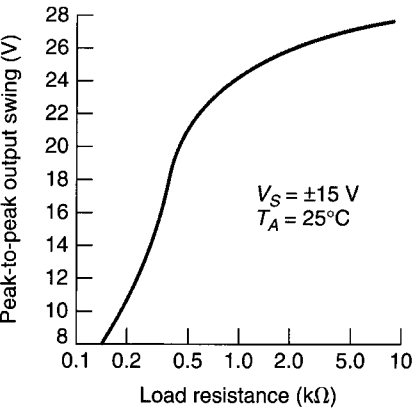
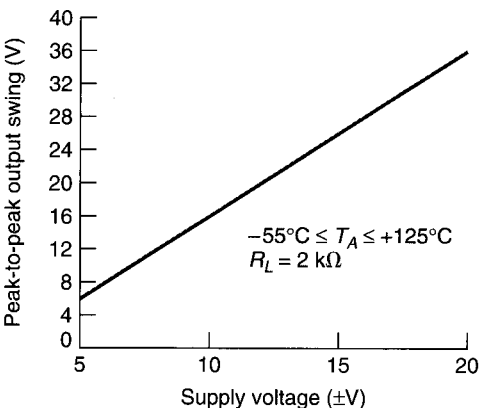
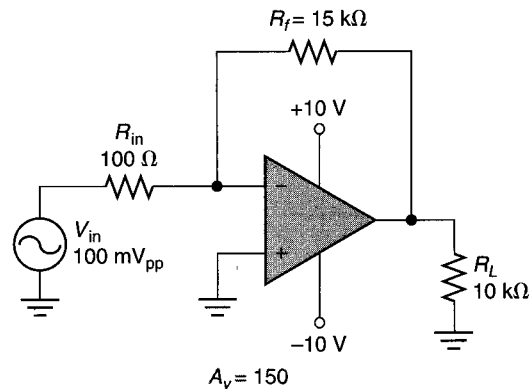
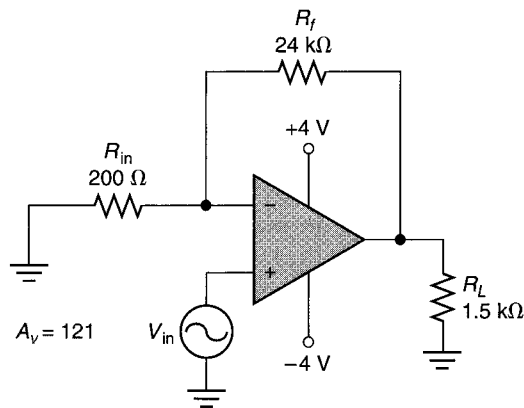

FIGURE 15.10 Output voltage as a function of load resistance.
FIGURE 15.11 Output voltage as a function of supply voltage.
FIGURE 15.13
FIGURE 15.15
If the load resistance is less than  $2\text{ k}\Omega$ , a graph like the one in Figure 15.10 can be used to determine the limits on the output voltage. Note that the output voltages in the curve are given as *peak-to-peak* values. For example, the curve shows that a  $200\text{ }\Omega$  load resistance limits the output voltage swing to  $10\text{ V}_{\text{PP}}$ , or  $\pm 5\text{ V}$ .
The curve in Figure 15.10 assumes power supply values of  $\pm 15\text{ V}$ . If the power supply is set to values other than  $\pm 15\text{ V}$ , a graph like the one in Figure 15.11 can be used to determine the limits on the output voltage. Generally, the following guidelines apply to any 741 op-amp:
Determine the peak-to-peak output voltage for the circuit shown in Figure 15.13. Also, determine the maximum possible output values for the amplifier. Assume that the voltage gain of the circuit is 150.
Determine the maximum input and output voltage values for the circuit in Figure 15.15. Assume that the op-amp has the output limits shown in Figure 15.10.
**Solution:** Since the load resistance is less than 2 k $\Omega$ , we must make sure that the output voltage swing is not limited by the load. Checking the graph in Figure 15.10, we see that the maximum possible output swing with a load of 1.5 k $\Omega$  is 26 Vpp, or  $\pm 13$  Vpk. Since the supply voltages are well below this value, we can safely assume that the load will not significantly restrict the output voltage swing. With this in mind, we can determine the maximum output voltages using the guidelines established for loads under 10 k $\Omega$ . Thus,
Determine the maximum allowable peak-to-peak input voltage for the amplifier described in Practice Problem 15.2. Assume that the load resistance for the circuit is  $1\text{ k}\Omega$ . Use the curve in Figure 15.10 to determine the effect of the load resistance on the op-amp output voltage limits.
Incidentally, the circuit shown in Figure 15.15 has an input applied to the *noninverting* terminal, while the circuits shown in Figures 15.13 and 15.14 have inputs applied to the *inverting* terminals. The main difference between the circuit shown in Figure 15.15 and the other two is that there is no voltage phase shift from input to output. The circuits shown in Figures 15.13 and 15.14 both have a  $180^\circ$  voltage phase shift from input to output.
Another point can be made at this time: The circuit configuration shown in Figures 15.13 and 15.14 are the op-amp counterparts of the *common-emitter* amplifier. If you compare these circuits to the voltage-divider biased amplifier, you will see that the op-amp circuits contain far fewer components. This is another advantage of using op-amp circuits in place of discrete component circuits. Op-amp circuits require fewer external components to establish the desired operation.